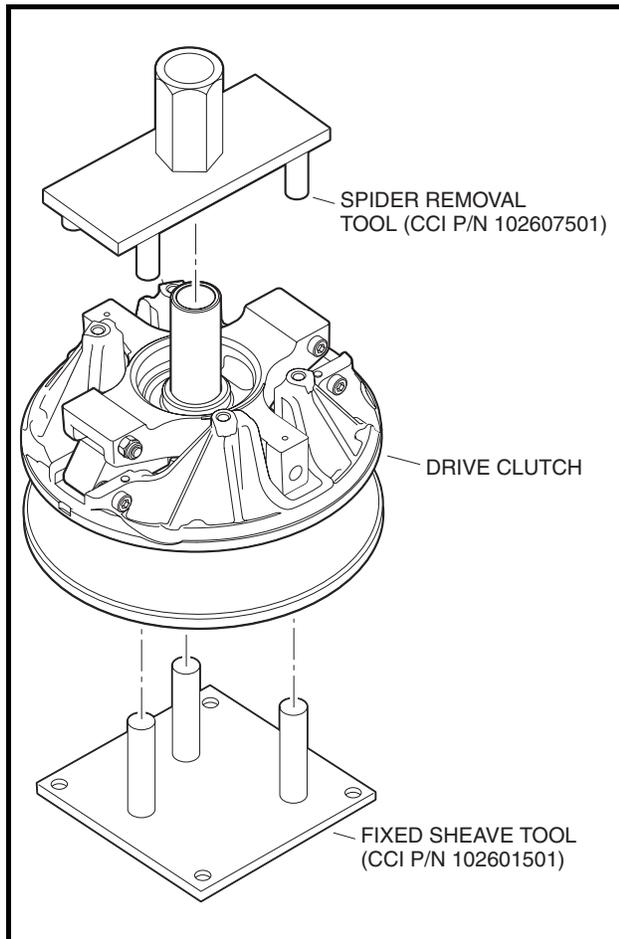

Figure 13b-36 Drive Clutch Service Tools
1. Use a 7/16-inch socket to remove the four bolts (1) and washers (2) that secure the plate (3) to the clutch cover (4) (**Figure 13b-37, Page 13b-33**).
2. Remove the cover (4) and spring (5) from the clutch spider (6).
3. Inspect the torque rollers (7), weights (11) and rollers (10). Replace if necessary.